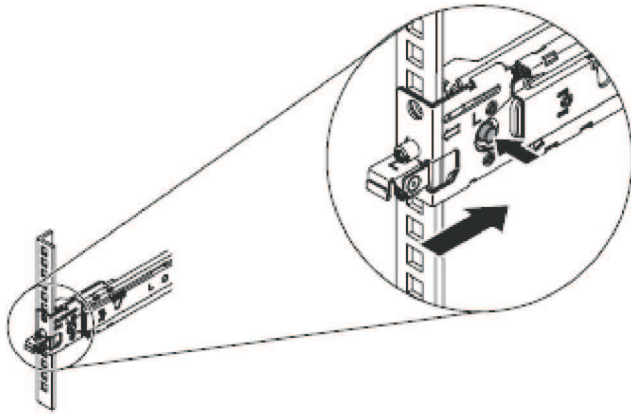

Figure 71. Installing the front end of the slide rails
5. Install the front end of the slide rails, as shown in Figure 71 on page 93.